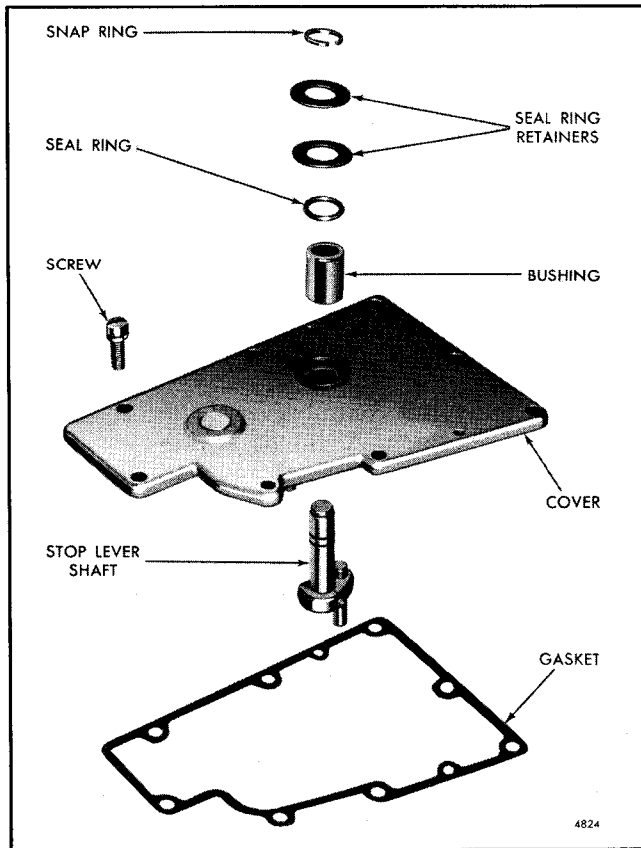
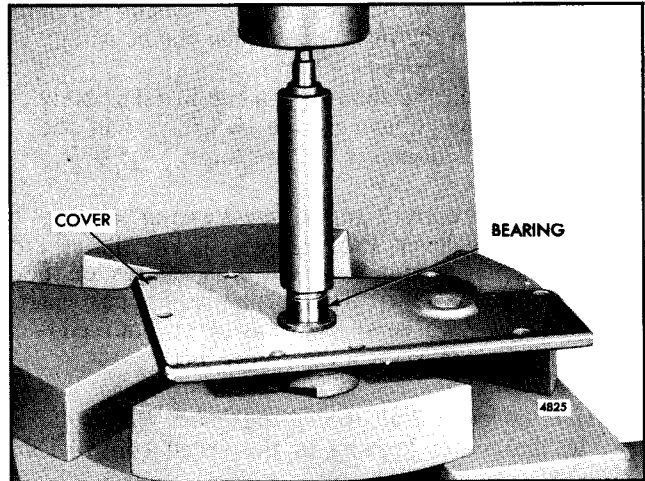

Fig. 16 - Governor Cover Details and Relative Location of Parts
Fig. 17 - Installing Bearings in Governor Cover using Tool J 21068
6. Refer to Fig. 16 for the location of the various parts and assemble the governor cover as follows:
- a. If the stop lever bushing (Fig. 16) was removed from the cover, place the cover, inner face down, on the bed of an arbor press as shown in Fig. 17.